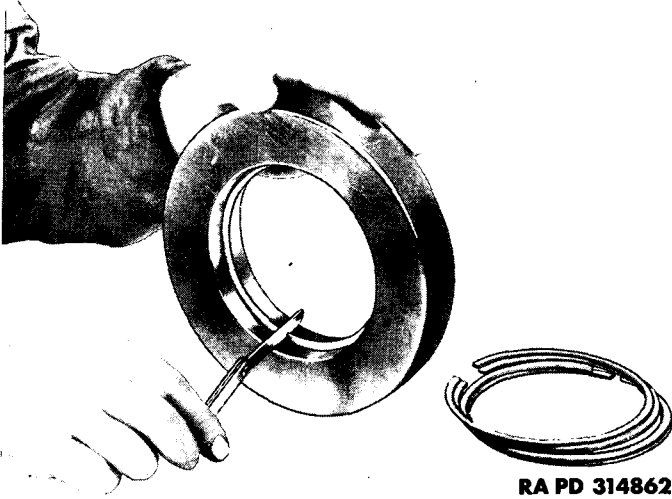

Figure 113 – Measuring Piston Ring Gap Using Gage 41-G-400 and Ring 41-R-2492
c. Piston Rings. When piston has been removed, always install new rings. Before installing rings in pistons, check ring fit in ring gage, and measure gap with 5-inch feeler gage (fig. 113). Gap should measure between 0.025 and 0.031 inch.